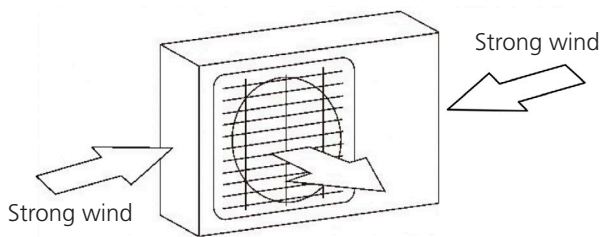

Fig. 5.1
- If the location is exposed to strong winds (for example: near a seaside), the unit must be placed against the wall to shelter it from the wind. If necessary, use an awning. (See **Fig. 5.1 & 5.2**).